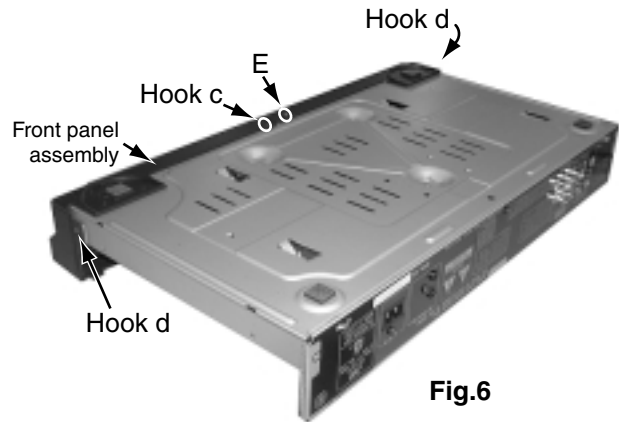

Fig.6
■ Removing the front panel assembly (see Fig.6,7)